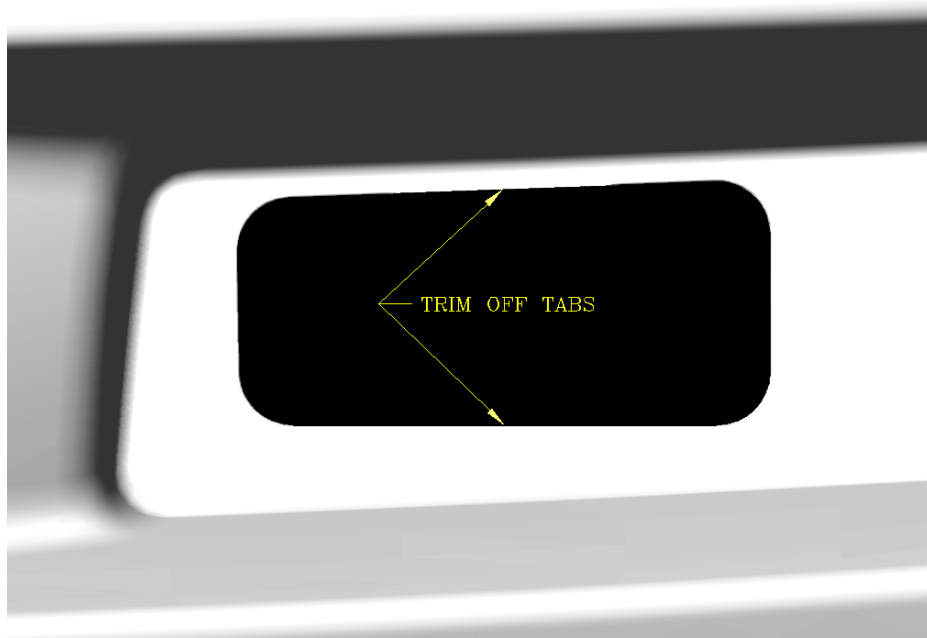
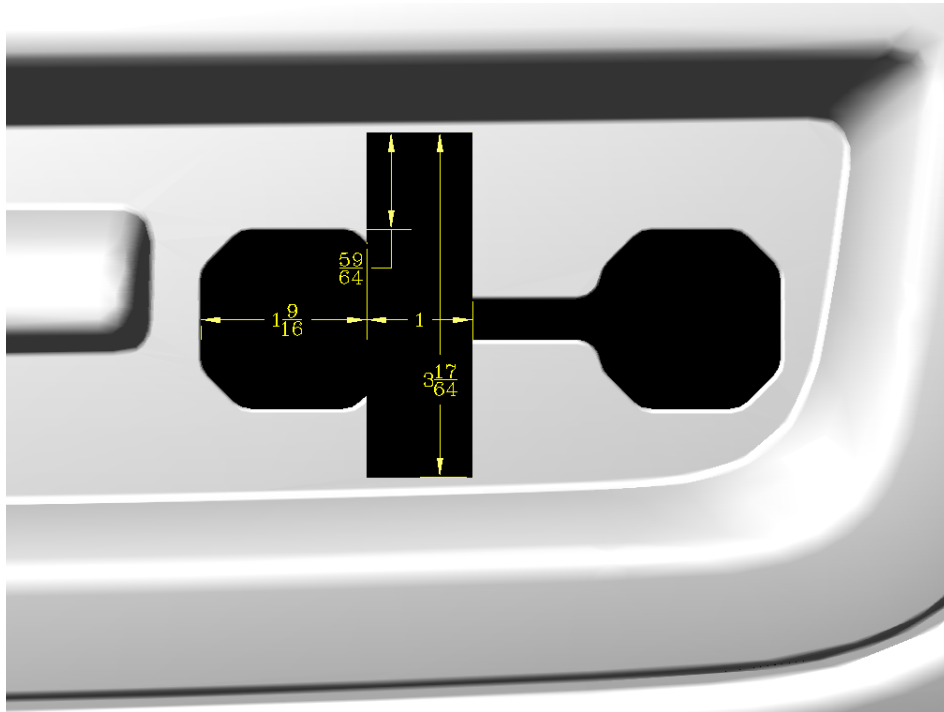

FIG. 3
FIG.4
3. INSTALL THE LEFT HAND MOUNTING BRACKET (ITEM #4) INTO THE END OF THE FRAME. (**NOTE: WHEN INSTALLING THE BRACKETS ON A CHEVROLET, BEND THE PLASTIC TAB IN THE AIR DAM TO THE INSIDE WHILE INSERTING THE BRACKET OR TRIM OFF THE TOP AND BOTTOM TABS EVEN WITH THE OUTSIDE HOLES, WITH A UTILITY KNIFE. SEE FIG. 3 ON PAGE 5. WHEN INSTALLING ON A GMC IT WILL BE NECESSARY TO NOTCH OUT THE PLASTIC WHERE THE BRACKETS COME THROUGH. SEE FIG. 4 ON PAGE 5.**) FASTEN WITH THE 1/2"-13 X 1-1/2" BOLTS (ITEM #10), 1/2"-13 X 4-1/2" HEX BOLT (ITEM #9), 1/2" LOCK WASHERS (ITEM #16), 2.00 X .509 X .179 FLAT WASHER (ITEM #20) AND THE 1/2"-13 SERRATED FLANGE NUT (ITEM #13). LEAVE LOOSE AT THIS TIME.
NOTCH THE CHEVROLET LOWER VALANCE WITH A SHARP UTILITY KNIFE TO THE DIMENSIONS SHOWN IN FIG.3
NOTCH THE GMC LOWER VALANCE WITH A SHARP UTILITY KNIFE TO THE DIMENSIONS SHOWN IN FIG.4